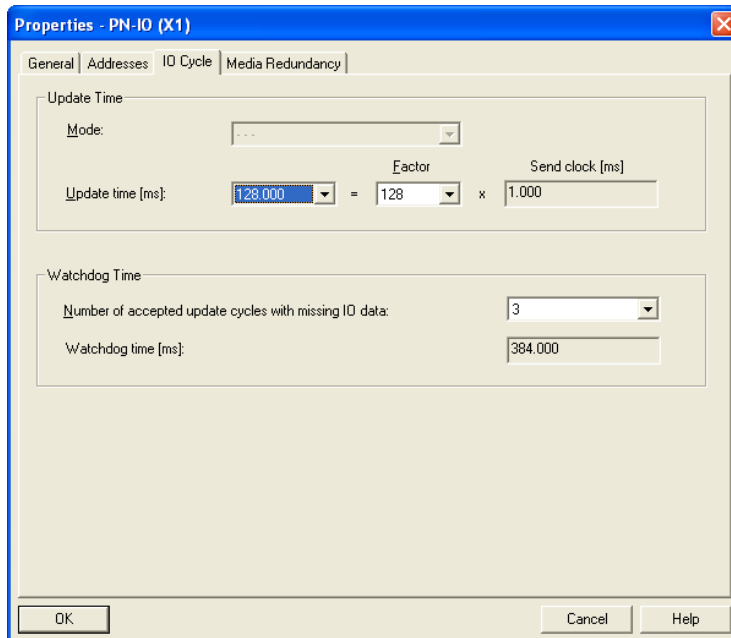

Figure 14: Dialog for entering the IO Cycle
- Under Update Time/Update time[ms]:, select the required update time (in ms) for the IO Cycle (see figure 14).
- Under Watchdog Time/Number of accepted update cycles with missing IO data, select the required number for the IO Cycle (see figure 14).